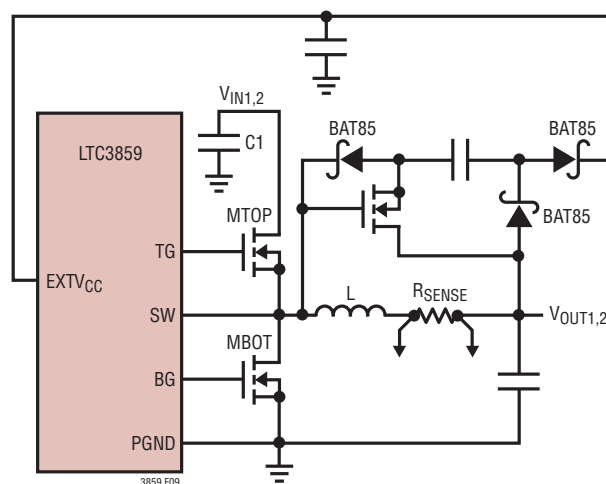

Figure 9. Capacitive Charge Pump for EXT_{CC}
4. EXT_{CC} connected to an output-derived boost network off one of the buck regulators. For 3.3V and other low voltage buck regulators, efficiency gains can still be realized by connecting EXT_{CC} to an output-derived voltage that has been boosted to greater than 4.7V. This can be done with the capacitive charge pump shown in Figure 9. Ensure that $EXT_{CC} < V_{BIAS}$.